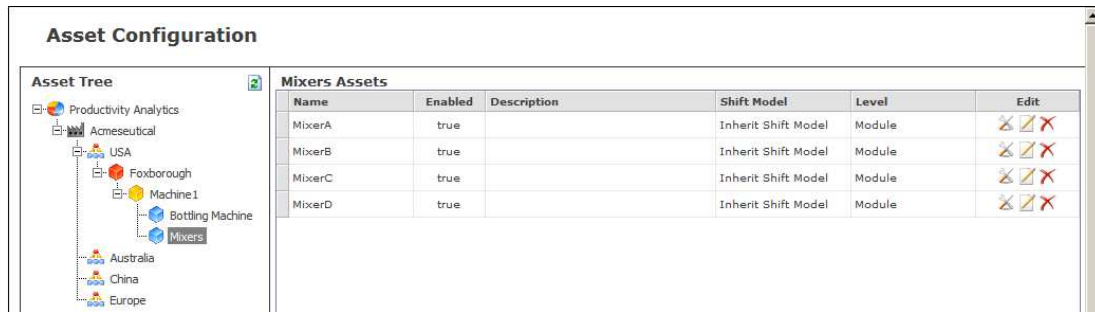

Figure L4.4 - Asset Configuration
20. Your asset configuration should look similar to Figure L4.4.